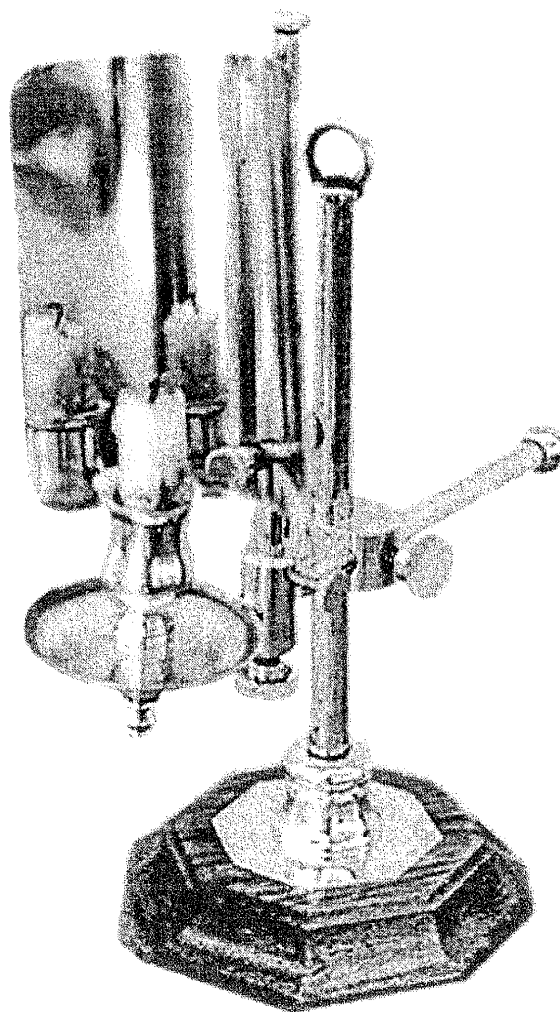

Fig. 8 Hirsch Candle Illuminator
**THE CANDLE ILLUMINATOR.** In conjunction with the water-lens condenser, let's examine our pre-Victorian era microscopic objects by the light of a candle. An ordinary candlestick won't do, so we invoke the pseudo- scientific spirit of Rube Goldberg and build us an 18/19th century candleholder with gobs of adjustments, in the tradition of the old time instrument makers. Starting with a rectangular oak base and a brass escutcheon plate ala the water-lens assembly, a candle holder on a horizontal rod is clamped to a vertical post, providing adjustment along x, y, and z axes. A curved reflector of polished brass clamps between the candleholder and the vertical post. The reflector is adjustable vertically and horizontally. The assembled candle illuminator is shown in fig. 8.